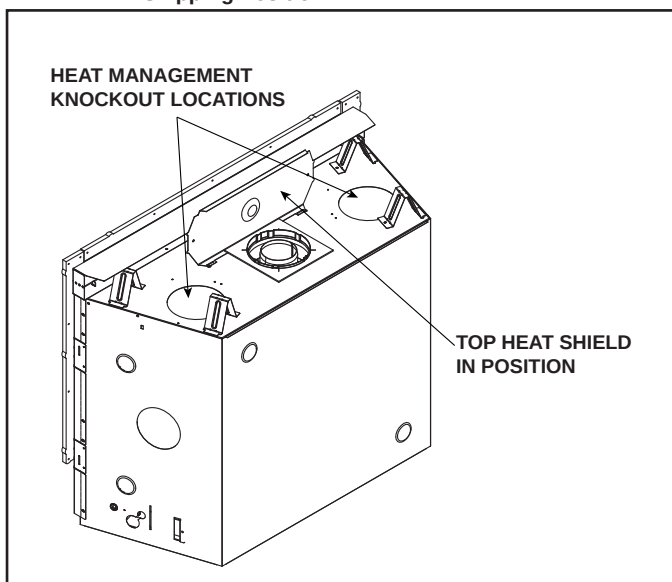

Figure 6.2 COSMO42-IFT-B B / COSMO36-IFT-B
2. Fold up top heat shield to 90 degrees as shown in Figure 6.2.
- Locate the two heat management ports on the top of the appliance. Either one or two Heat-Zone®-Gas Kits may be installed. See Figure 6.2. Remove the knockouts from the appliance with a tin snips.